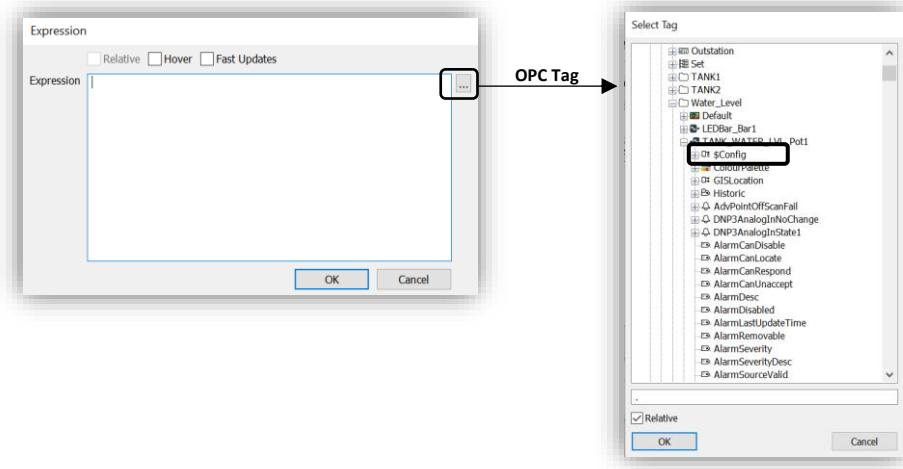

Figure 47. Find animation property to animate TANK_WATER_LVL_Pot1
- In **Select Tag** dialog go to tab *GroupName>WaterLevel folder>TANK_WATER_LVL_Pot1>\$Config* (Figure 47).